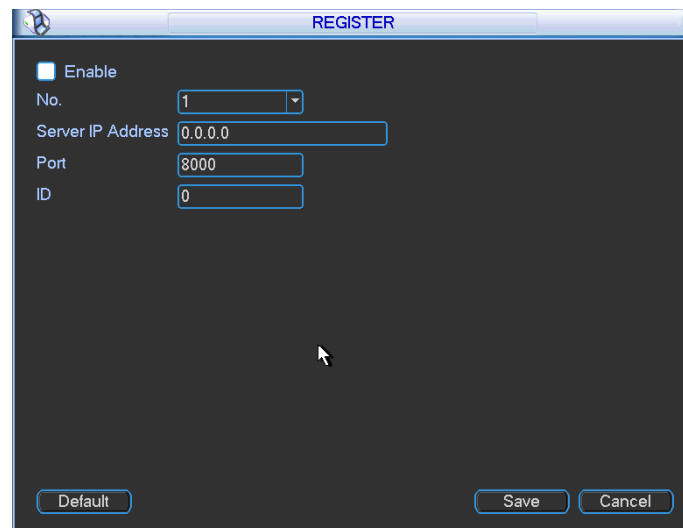

Figure 6-52
1) The setup interface is shown as in Figure 6-52.
3) Now you can add device. Please do not input default port number such as the TCP port in the mapping port number. The device ID here shall be the same with the ID you input in Figure 6-52. Click Add button to complete the setup.